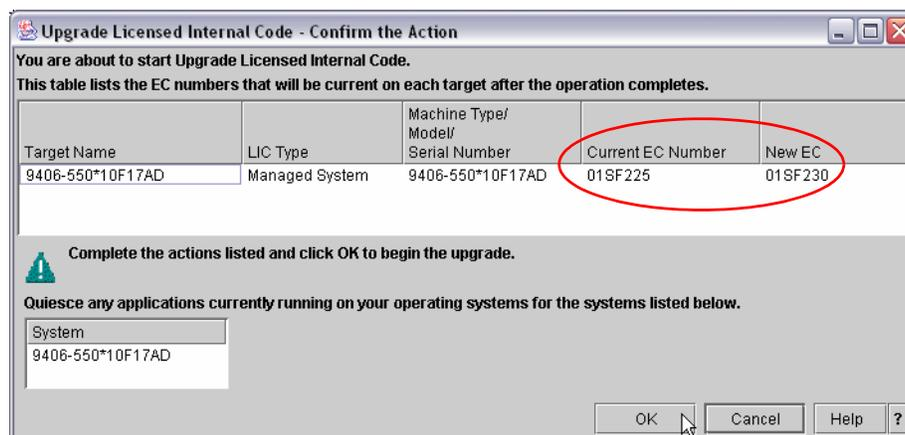

Figure 14-44 Upgrade LIC - Confirm the Action screen
8. The Upgrade LIC - Confirm the Action window appears (Figure 14-44). The current EC number (current installed firmware level) and the new EC number (new firmware level to be installed) are shown.